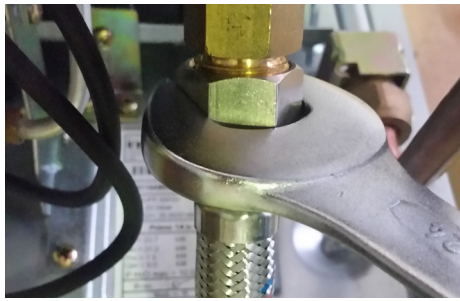

Fig. 15
- Disconnect the water valve from the water supply removing the inlet connection (Fig. 15)